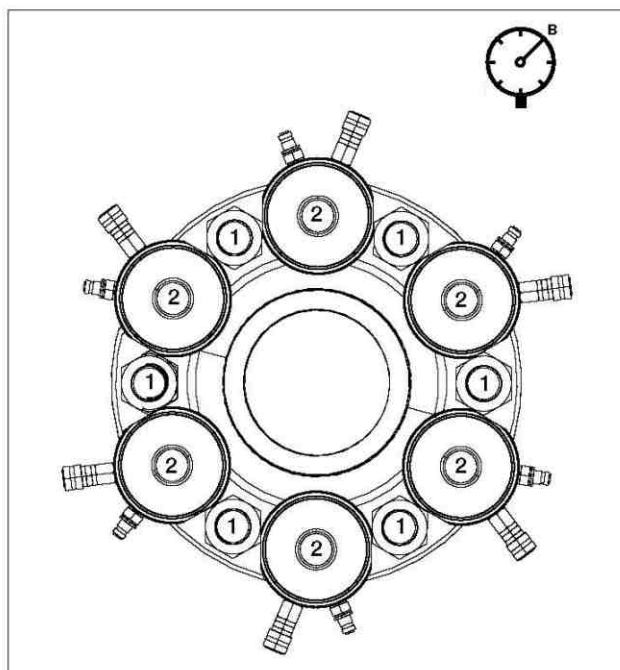

Figure 4.3-4 Tensioner Arrangement, Second Pass -
- 4.3.14 Move the tensioners to the remaining 50% of the bolts (i.e. All bolts numbered "2"). See Figure 4.3-4.